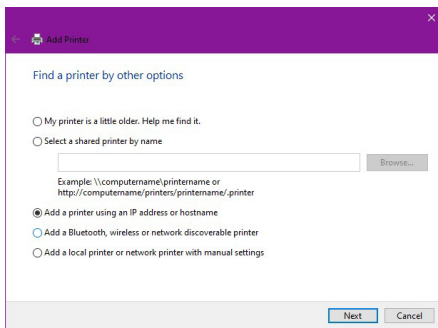

Figure 22
5. On the **Add Printer** screen, select **Add a printer using a TCP/IP address or hostname**, then click **Next.** (Figure 22)